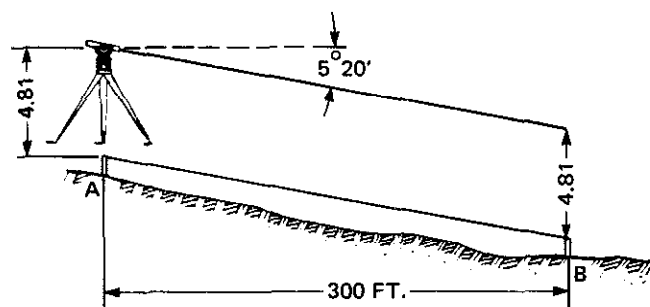

Fig. 5-55 Finding an approximate difference in elevation
1. Set up over point A, figure 5-55.